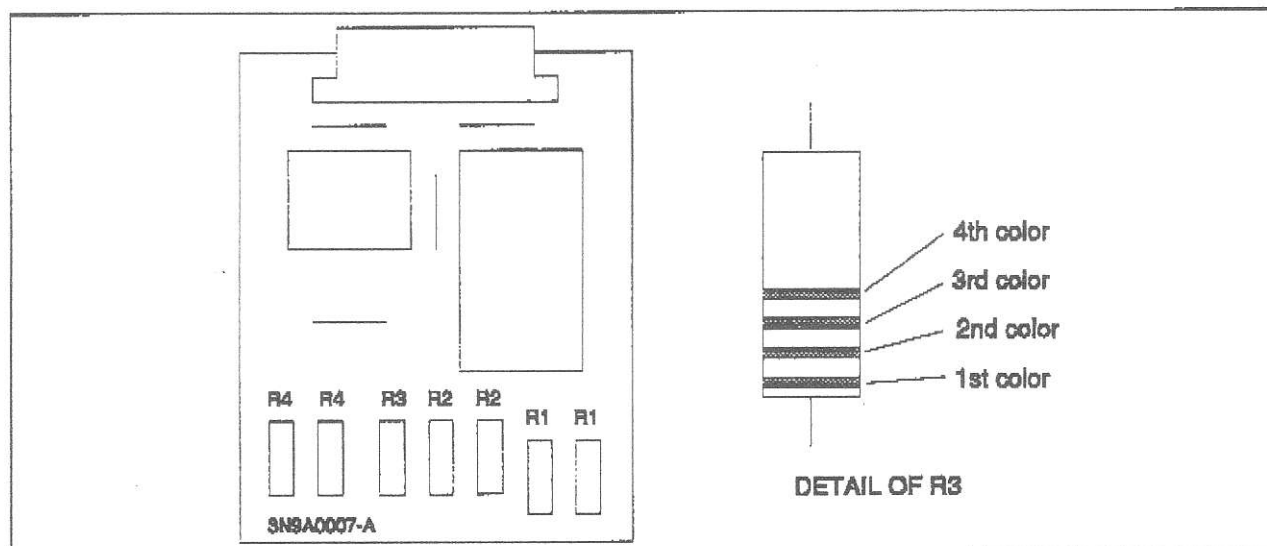

Fig. 66 Control Circuit Board
- 3) Disconnect the wire harness connector from the control circuit board socket by pulling the connector straight out while depressing the connector tab to unlock it (Fig. 66).